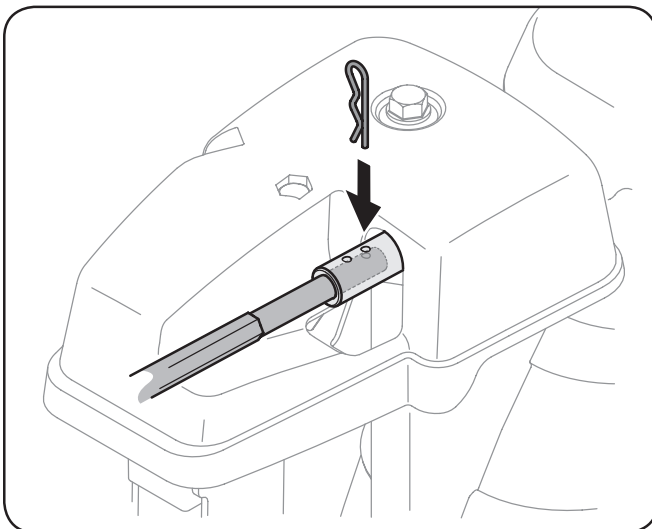

Fig. 3-9
7. Push the chute control rod toward the control panel until the hole in the chute control rod lines up with the closest hole in the chute rotation assembly and insert the cotter pin. See Fig. 3-9.